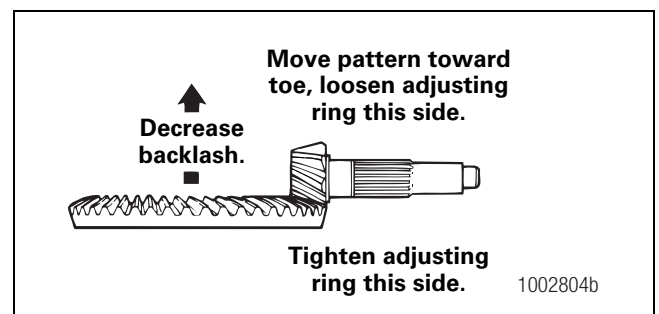

Figure 5.57
- A. Decrease the backlash to move the contact patterns toward the toe of the ring gear teeth. Figure 5.57.